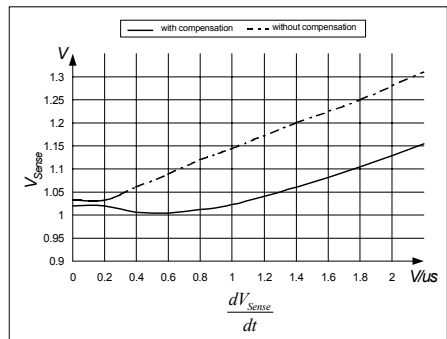

Figure 18 Overcurrent Shutdown
So current limiting is now capable in a very accurate way (see Figure 18).
E.g. $I_{peak} = 0.5A$ with $R_{Sense} = 2 \Omega$. Without propagation delay compensation the current sense threshold is set to a static voltage level $V_{csth}=1V$. A current ramp of $dI/dt = 0.4A/\mu s$, that means $dV_{Sense}/dt = 0.8V/\mu s$, and a propagation delay time of i.e. $t_{Propagation Delay} = 180ns$ leads then to a I_{peak} overshoot of 12%. By means of propagation delay compensation the overshoot is only about 2% (see Figure 18).